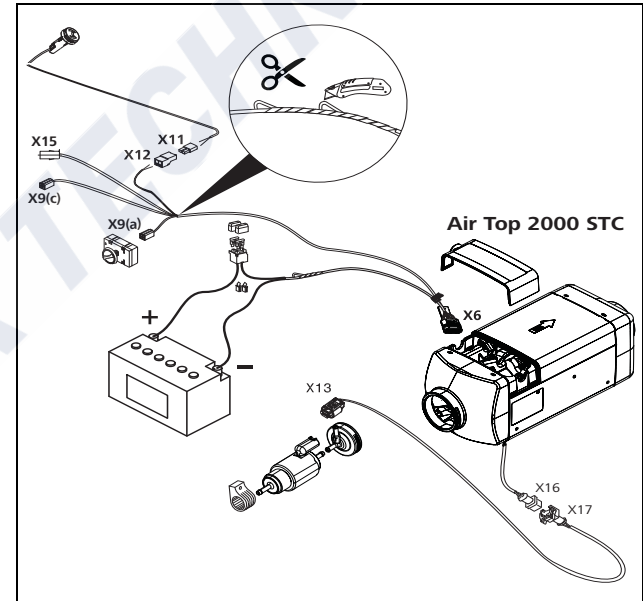
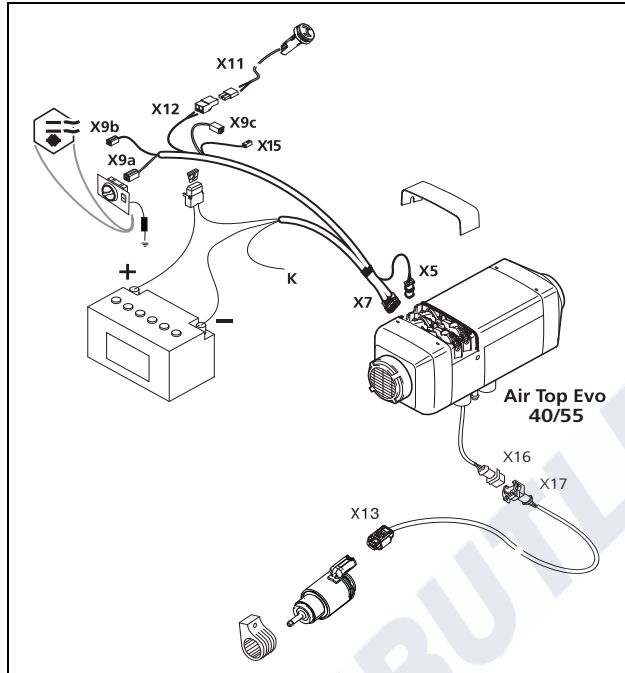

Fig. 32 Wiring harness Air Top 2000 STC
Fig. 33 Wiring harness Air Top Evo 40 / Air Top Evo 55
Fig. 32 and Fig. 33 show the wiring harnesses for Air Top 2000 STC and Air Top Evo 40 / Air Top Evo 55
- The wiring harness for the Air Top Evo 40 / Air Top Evo 55 includes cable K (Fig. 33, colour red/black (rt/sw)) for optional control of a battery disconnect or an additional operating indicator. If not required for this purpose, insulate the end of the cable.